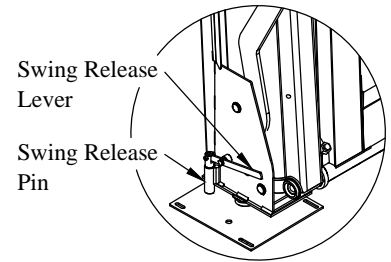

Figure 15: Swing release feature.
12. **Push** down on the swing release lever (Figure 15).